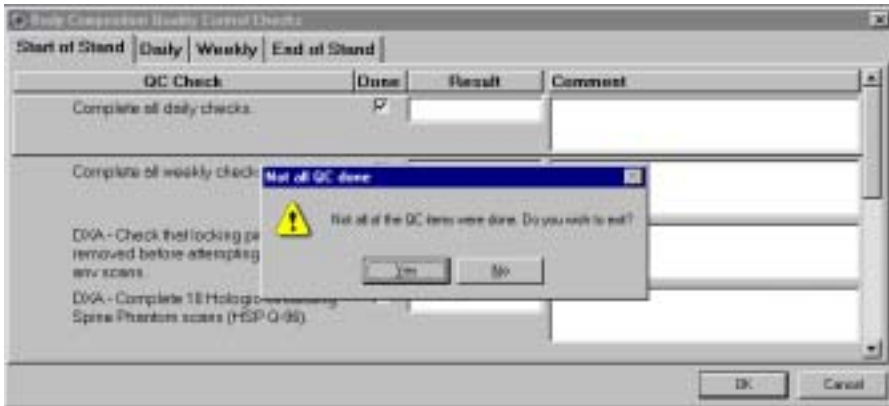

Figure 6-27. Quality control incomplete entry
- If you do not check that all items are complete, the system will display this message: “Not all the QC items were done. Do you wish to exit?” See Figure 6-27.